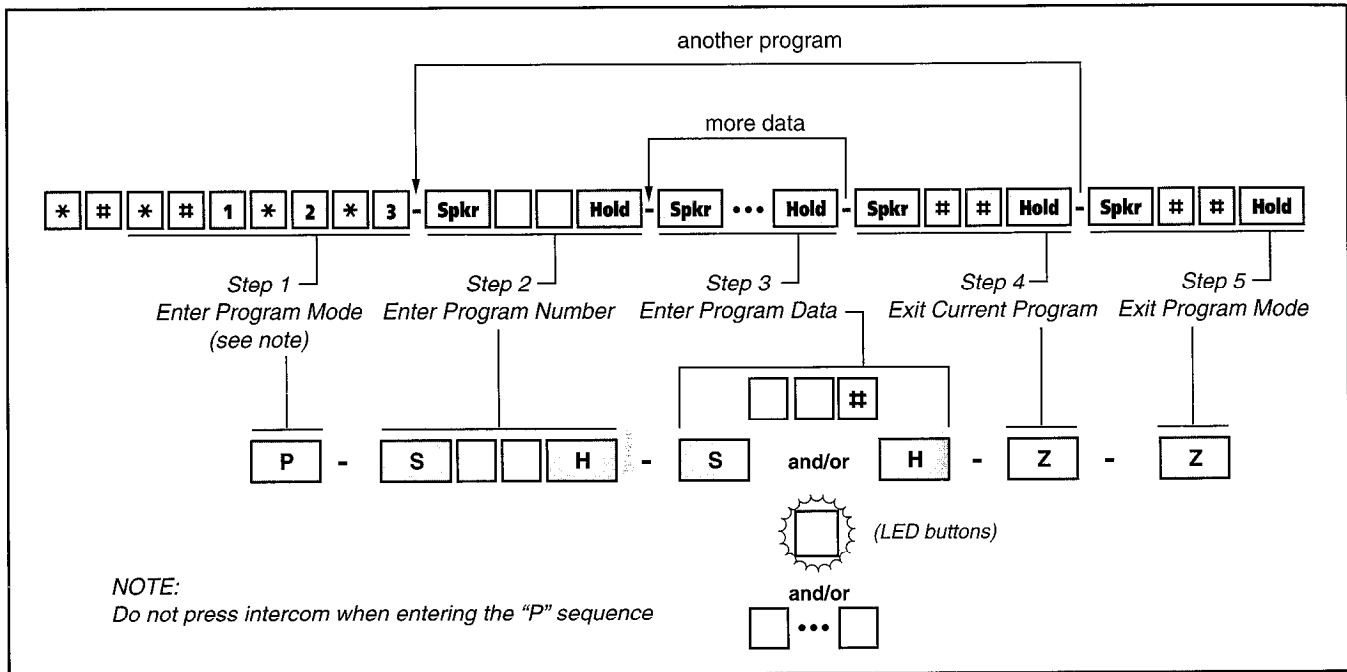

FIGURE 1-1
3.11 Keystrokes for entering data from System Record Sheets follow a five-step pattern, detailed in the following description and illustrated in Figure 1-1.
- 1) In Step 1, enter the programming mode by pressing a series of buttons shown in Figure 1-1. *To save space on the record sheets, the abbreviation "P" denotes this entry sequence. "P" buttons are always shaded.*
3.12 Each System Record Sheet has an abbreviated button sequence at the top of it like the one shown in Figure 1-1.
3.21 There are two ways to enter data in Step 3 (Figure 1-1) of a program: pressing the buttons on the dialpad and pressing the LED buttons. Many programs are multidimensional and involve both types of entry.